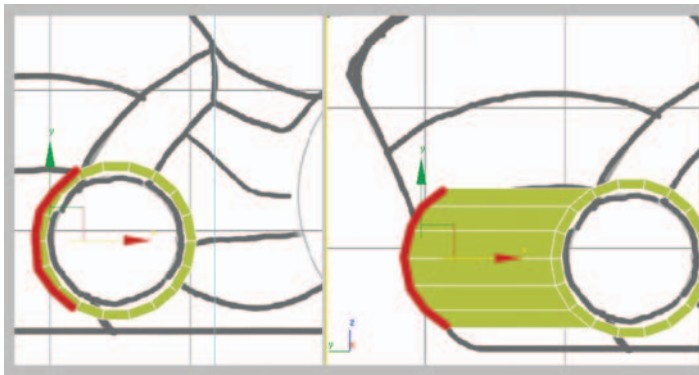

Figure 8.2 Edge selection (left) and new polygons after performing shift-drag (right).
3. In Edge subobject mode select the six edges shown in Figure 8.2 (left) and shift-drag them to the left to create a new span of polygons (Figure 8.2, right).